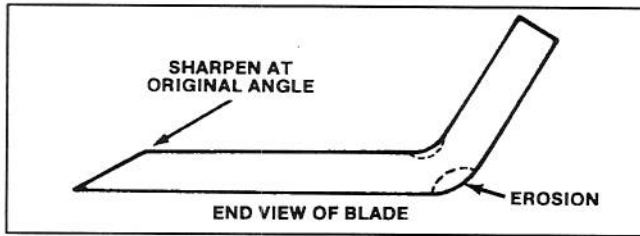

Figure 14
Check cutter blade every time rider is tipped on end. If bolt holding blade is loose, tighten it to 45–60 ft–lb. If blade or sail (Fig. 14) at end of blade is worn, eroded, or cracked, replace the blade. Replace the blade if it is bent or out-of-balance. Always use genuine TORO replacement blade to ensure safety and best performance. NEVER USE WILL-FIT REPLACEMENT BLADE.
7. Using a file, sharpen cutting edge at both ends of the blade (Fig. 14).